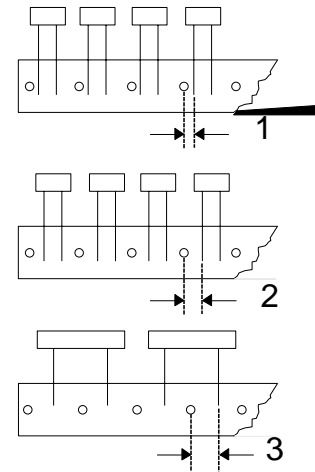

Figure 15 Component Position Relative to Tape Hole
- Distance from tape hole to component lead wire may vary (Figure 15, Item 1).